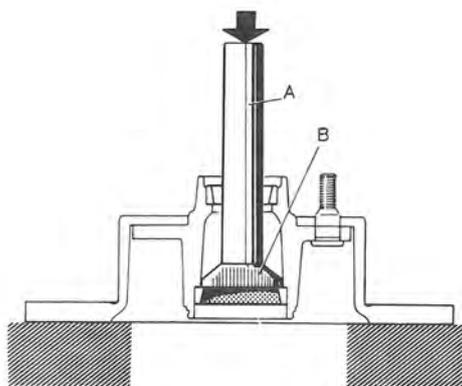

Fig. 7-22. Removing the inner bearing ring
5. Remove the bearing rings. Use drift SVO 2724 (Fig. 7-22) for the inner bearing ring and drift SVO 2725 (Fig. 7-23) for the outer bearing ring together with standard handle SVO 1801.